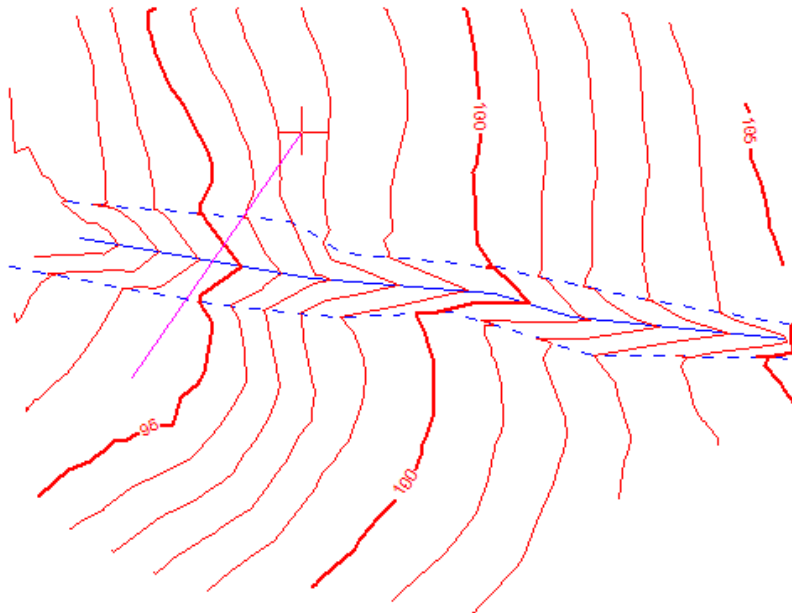

Figure 8-6: 2D Feature Across the Stream
9. Draw a feature with two points somewhat perpendicular to the stream (similar to that shown in Figure 8-6)